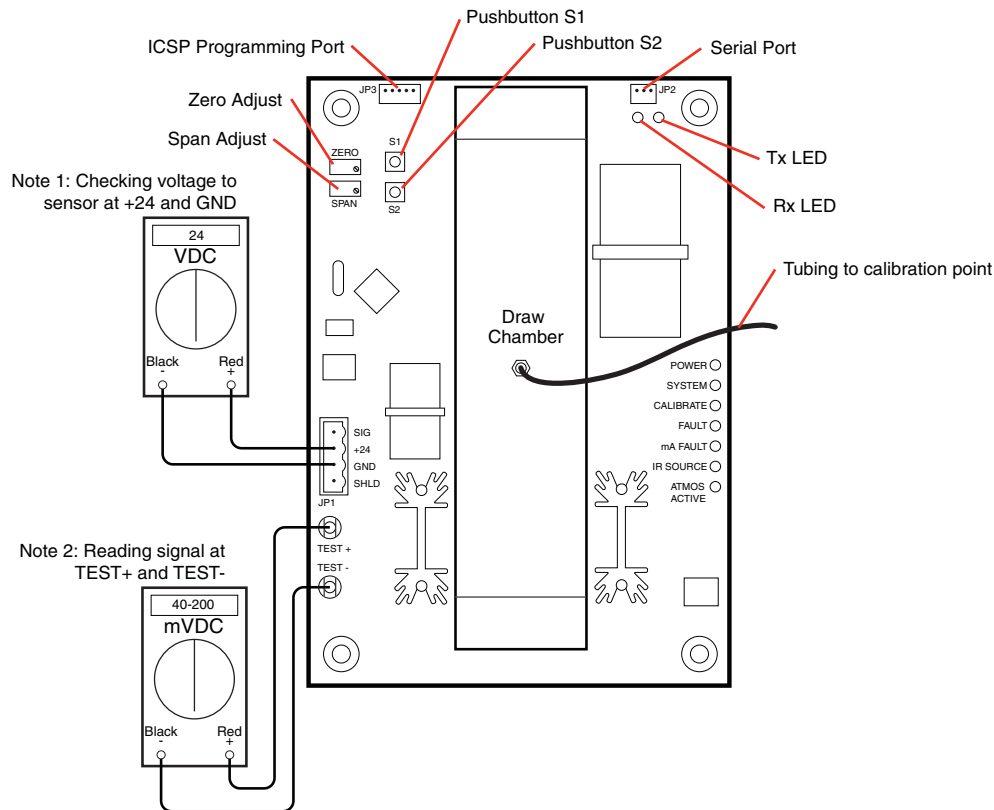

Figure 11. IR-F9 Switch Locations
1. Press and hold both “zero” (S1) and “span (S2) buttons simultaneously for one second or until the “system” LED begins to blink slowly. Refer to figure 11 for switch location.
2. Press and hold “span” button (S2) for 1 second or more until the yellow “calibrate” LED blinks fast and the yellow “system” LED is blinking slowly (see the following example). See Figure 11 for switch and potentiometer location.